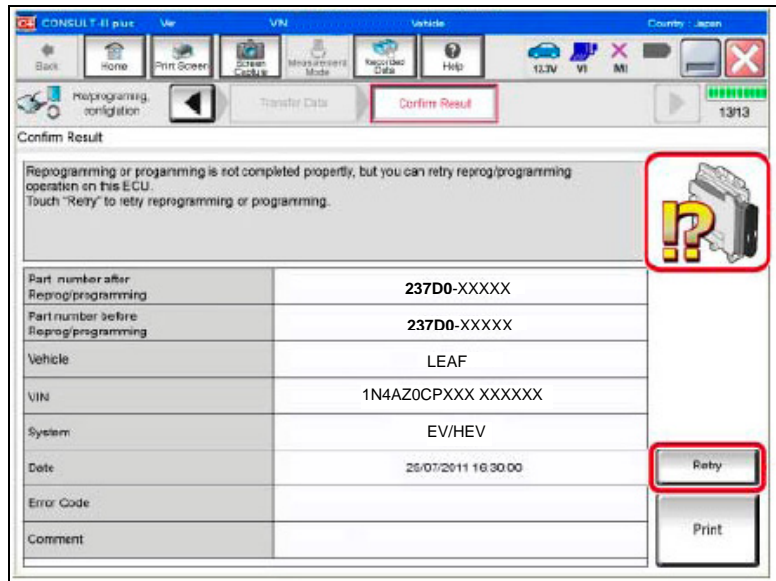

Figure 19
**If reprogramming does not complete and the “!” icon displays as shown in Figure 19:**